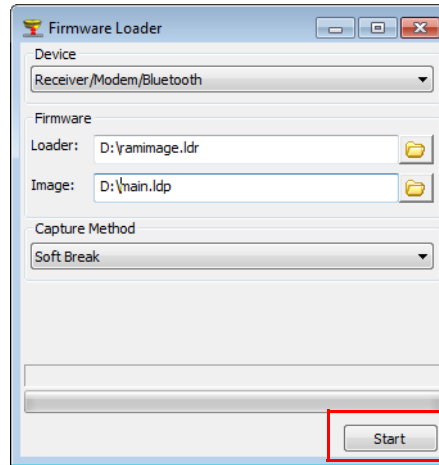

Figure 17: Upload Firmware Window
3. Click the **Firmware**  icon in the SRU main window. The **Upload Firmware** window (Figure 17) displays. This window enables you to upload firmware files to the connected receiver.
6. Browse for and select the receiver board's RAM and Flash files (Figure 17).